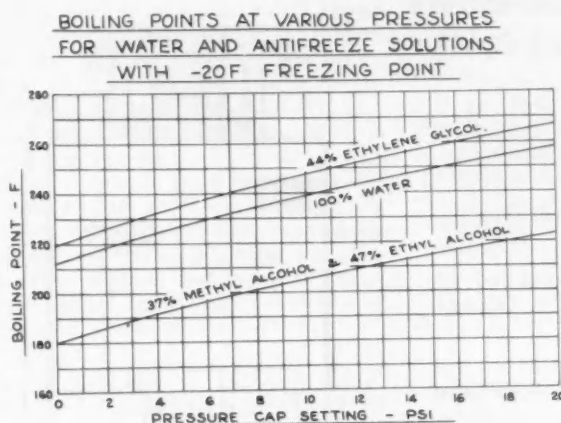

Fig. 2 - Pressure-temperature relation of water and antifreeze solutions, with -20F freezing point, for sealed cooling
Fig. 2 shows the factors influencing octane-number requirements. A basic car is assumed that has a compression ratio of 6:1, a water temperature of 170 F, an underhood air temperature of 140 F, and a speed of 3400 rpm.
• Fig. 2 - Factors influencing octane-number requirements of engine
Fig. 2 also shows the effect of supercharging. If we add a supercharger to this basic car that supercharges to 3 in. of Hg, the octane-number required is 5 points more.
Antifreeze solutions must also be considered. Fig. 2 compares curves of pressure cap setting versus boiling point for water and solutions of ethylene glycol and alcohol with a -20F freezing point.